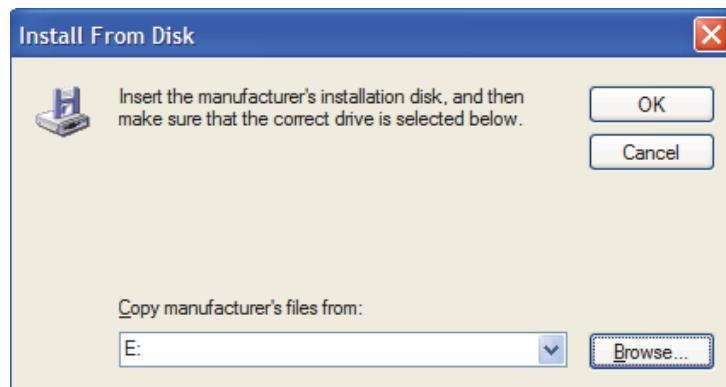

Figure 5-12. Install from Disk Dialog Box - Driver Selected
9. Select **OK**. See Figure 5-12.